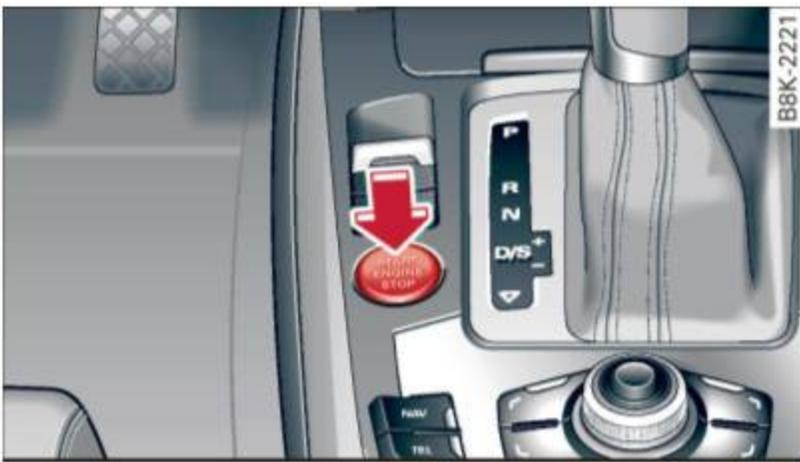

Fig. 97 Center console: START ENGINE STOP button
- ▶ Press on the **START ENGINE STOP** button ⇒ *fig. 97* - the engine will start.
⇒ page 83, fig. 97.